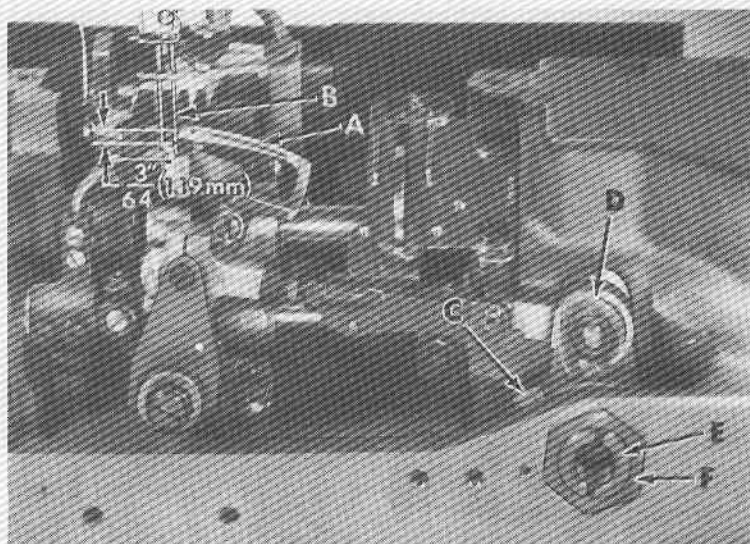
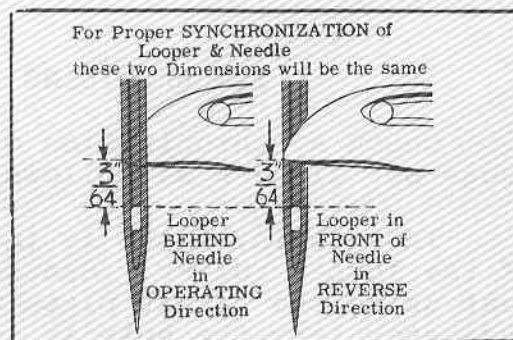

Fig. 4
Fig. 5
Insert looper into the looper rocker, pushing it all the way down and tighten screw against flat on shank of looper. Turn handwheel in the operating direction until the point of the looper (A, Fig. 4) moving to the left, is even with the left side of right needle (B). Note the height of the eye of the needle with respect to the looper point (See Fig. 5). Turn the handwheel in the reverse direction until the point of the looper again moving to the left, is even with the left side of right needle (See Fig. 5).
Loosen screw (C, Fig. 4) in looper drive lever (D) and push the looper drive lever rocker shaft towards the rear, through the opening of the thrust synchronizing adjusting screw (E). Should the shaft require moving towards the
The height of the needle (B, Fig. 4) is correct when the top of its eye is $\frac{3}{64}$ inch (1.19 mm) (Fig. 4) below the underside of the looper, with the looper point flush with the left side of the needle. If adjustment is necessary, loosen screw (B, Fig. 3) and move needle bar (A) up or down as required and retighten screw. Care should be taken not to disturb the alignment of the needle bar when moving the needle bar either up or down.